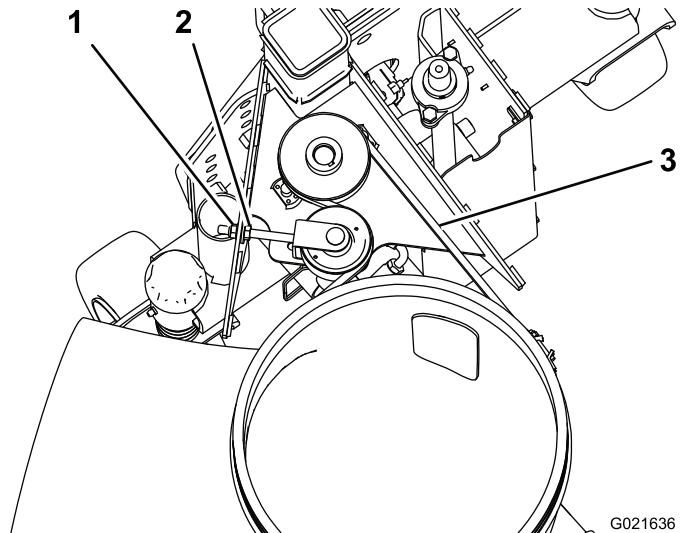

Figure 28
1. Check the tension by depressing the belt, at the center of the longest span, with 30 N-m. (22 lb) of force (Figure 28). The belt should deflect 4.8 mm (.19 inch). If the deflection is incorrect, proceed to the next step. If it is correct, continue operation.
2. To increase the belt tension, loosen the hex nut and tighten the flange nut until the desired belt tension is attained (Figure 28). Do not over tighten.